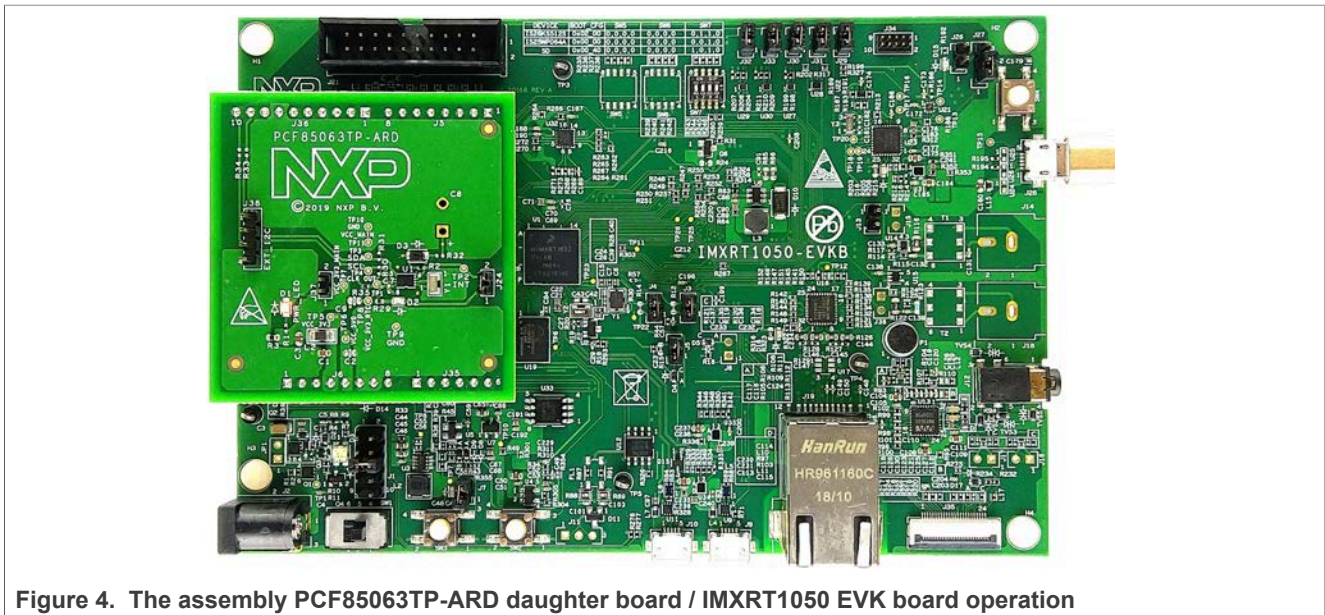

Figure 4. The assembly PCF85063TP-ARD daughter board / IMXRT1050 EVK board operation
2. Insert the PCF85063TP-ARD daughter card on the Arduino connector of the EVK (see Figure 4).
Figure 4 shows the boards during the operation.